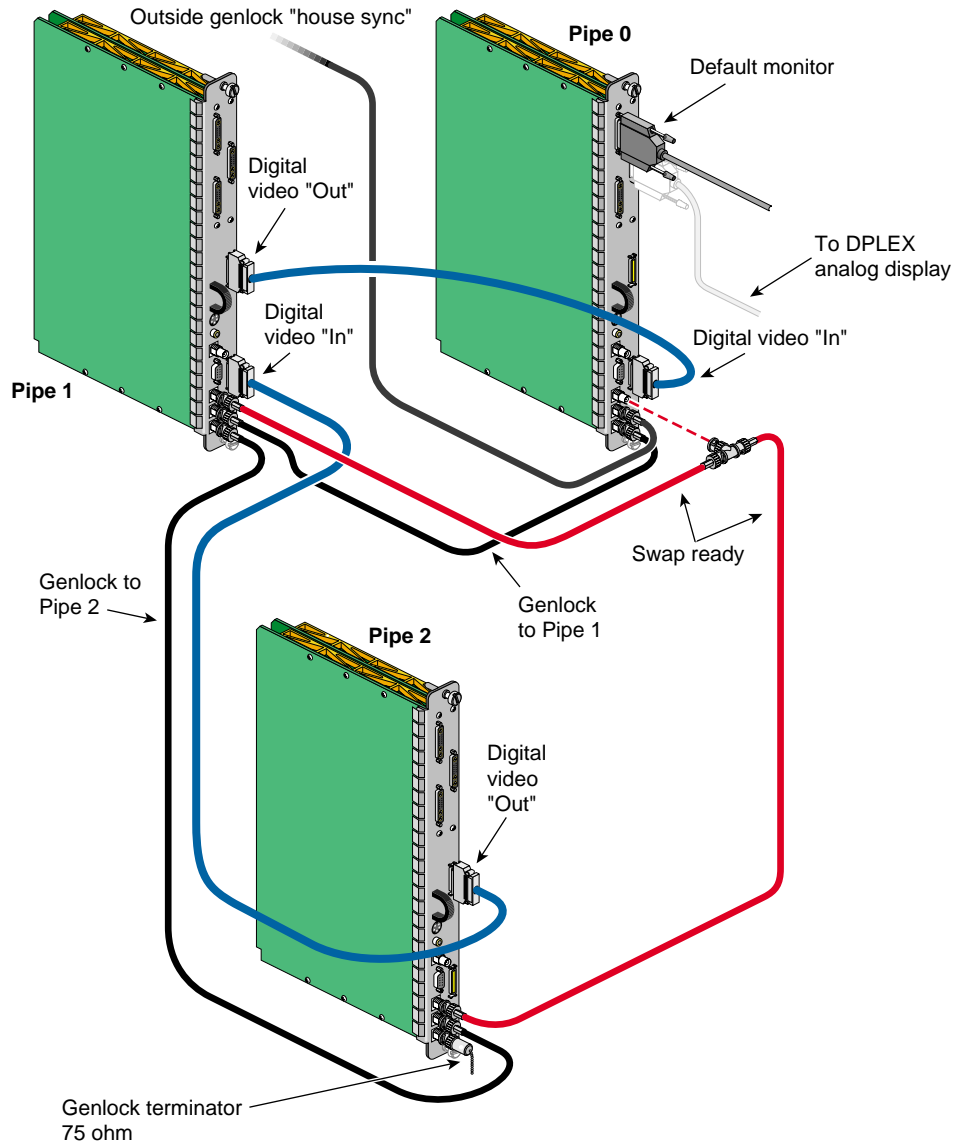

Figure 2-4 Three-Pipe DPLEX Cascade Cabling Example (External Genlock)
- For an external genlock signal, connect the external genlock line (house sync) to the genlock in connector on the first DG5/DPLEX board set in the cascade. This is shown as pipe 0 in Figure 2-4.
5. Attach the swap ready “T” connector to a swap ready input on a DG5 in the cascade. Figure 2-4 shows it attached to pipe 0, but any pipe may be used.